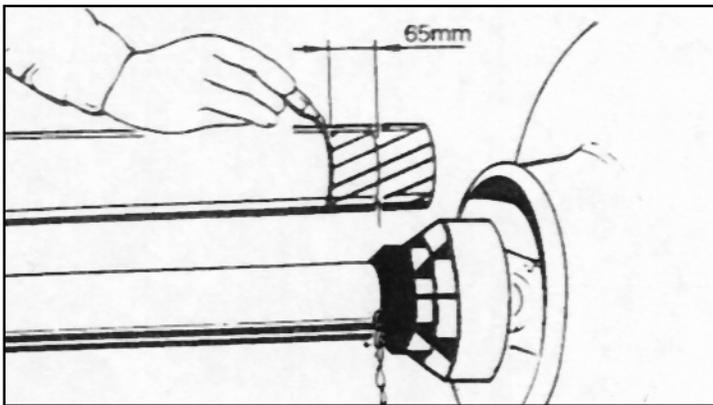

Figure 16 : measuring the cutting
- On each side, mark 65 mm from the end of protection as shown in Figure 16. these 65 mm correspond to the distance required to connect the transmission shaft of the tractor PTO.